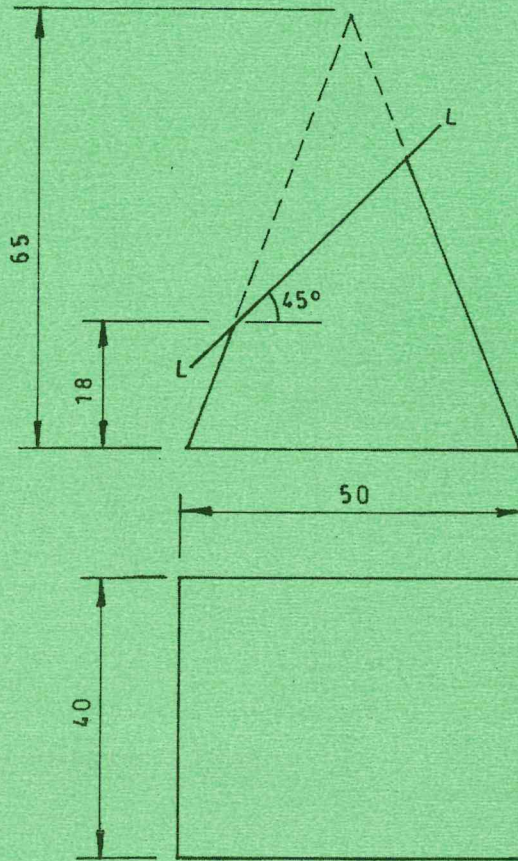

Fig.2
2. Figure 2 shows an incomplete plan and elevation of a rectangular base pyramid cut obliquely along the plane L-L.